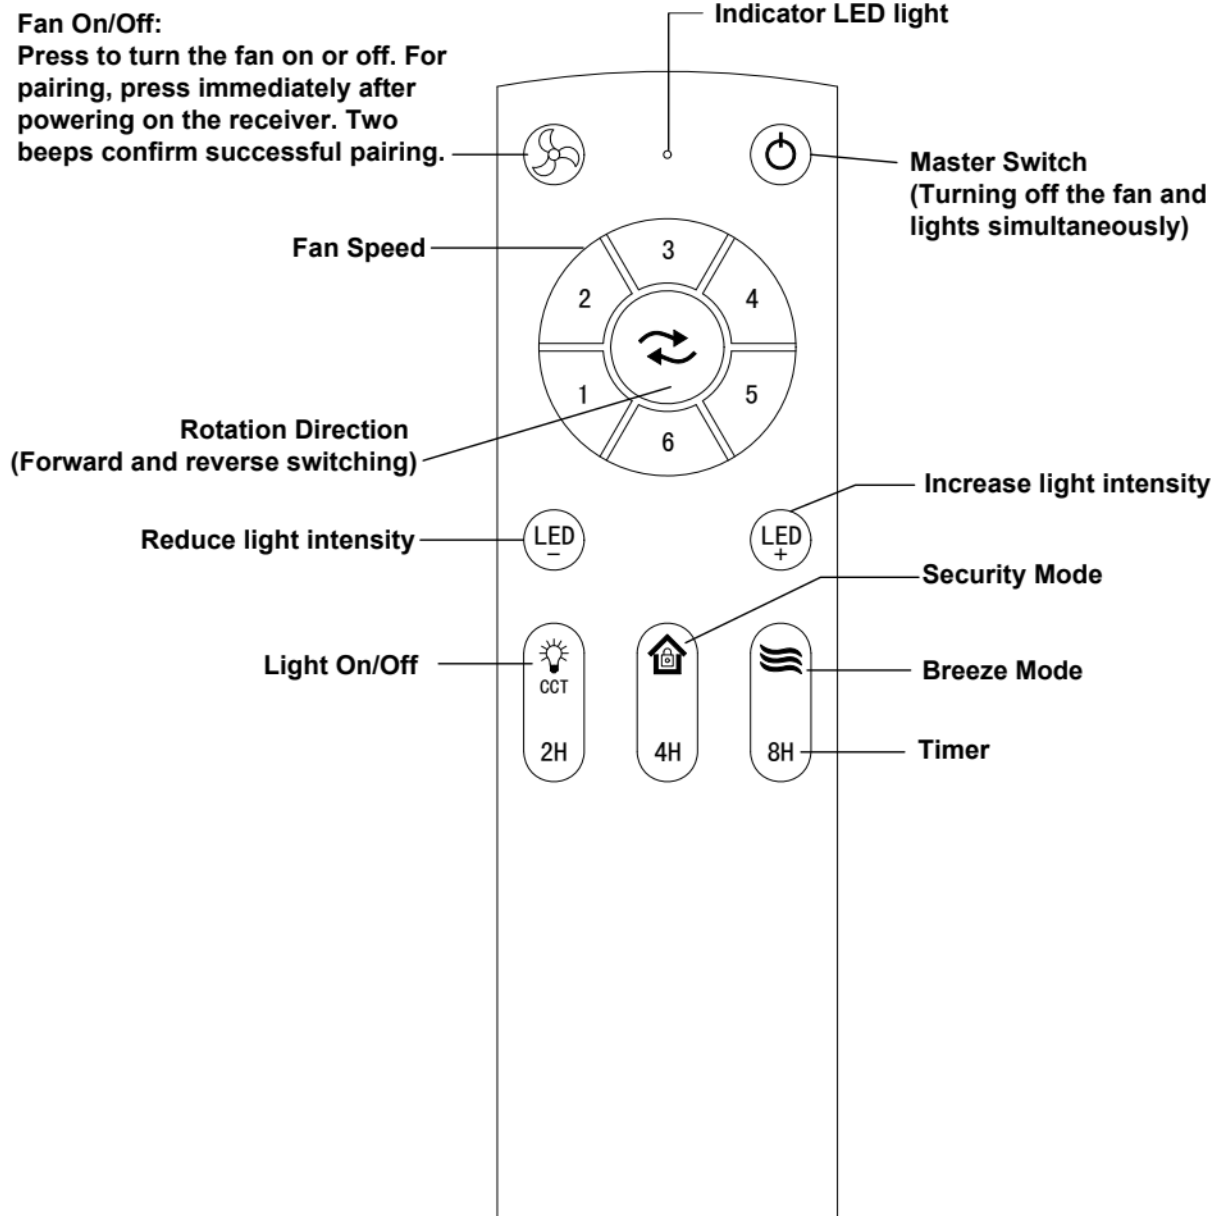

Figure 4
□ Remote functions: (Figure 4)